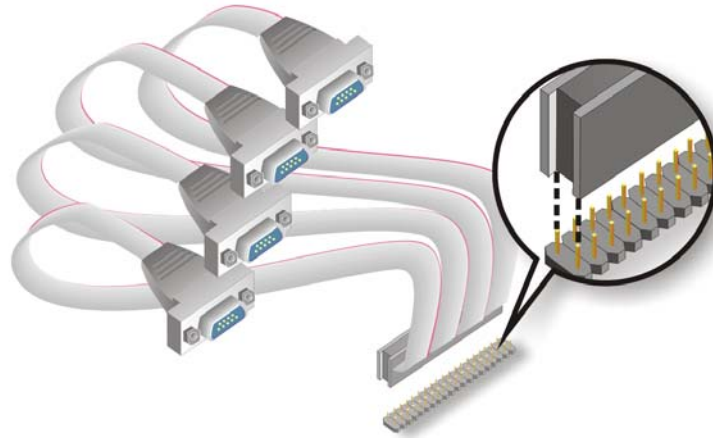

Figure 5-19: Four Serial Port Connector Cable Connection
- Step 6: Align the connectors.** Correctly align pin 1 on the cable connector with pin 1 on the NANO-9453 40-pin serial port connector. See **Figure 5-19**.
- Step 7: Insert the cable connectors** Once the cable connector is properly aligned with the 40-pin serial port connector on the NANO-9453, connect the cable connector to the onboard connectors. See **Figure 5-19**.